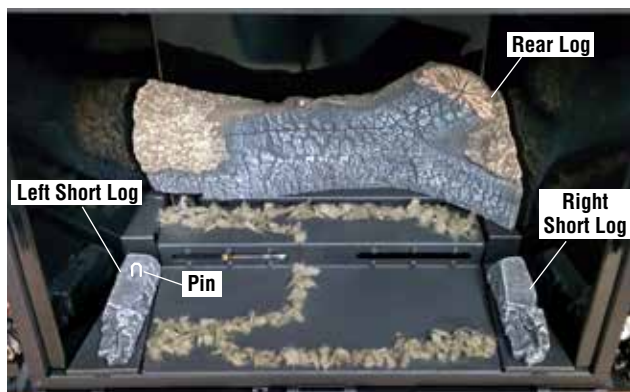

Figure 18
4. Place a layer of glowing embers (rockwool) directly over the ports (**Figure 18**).